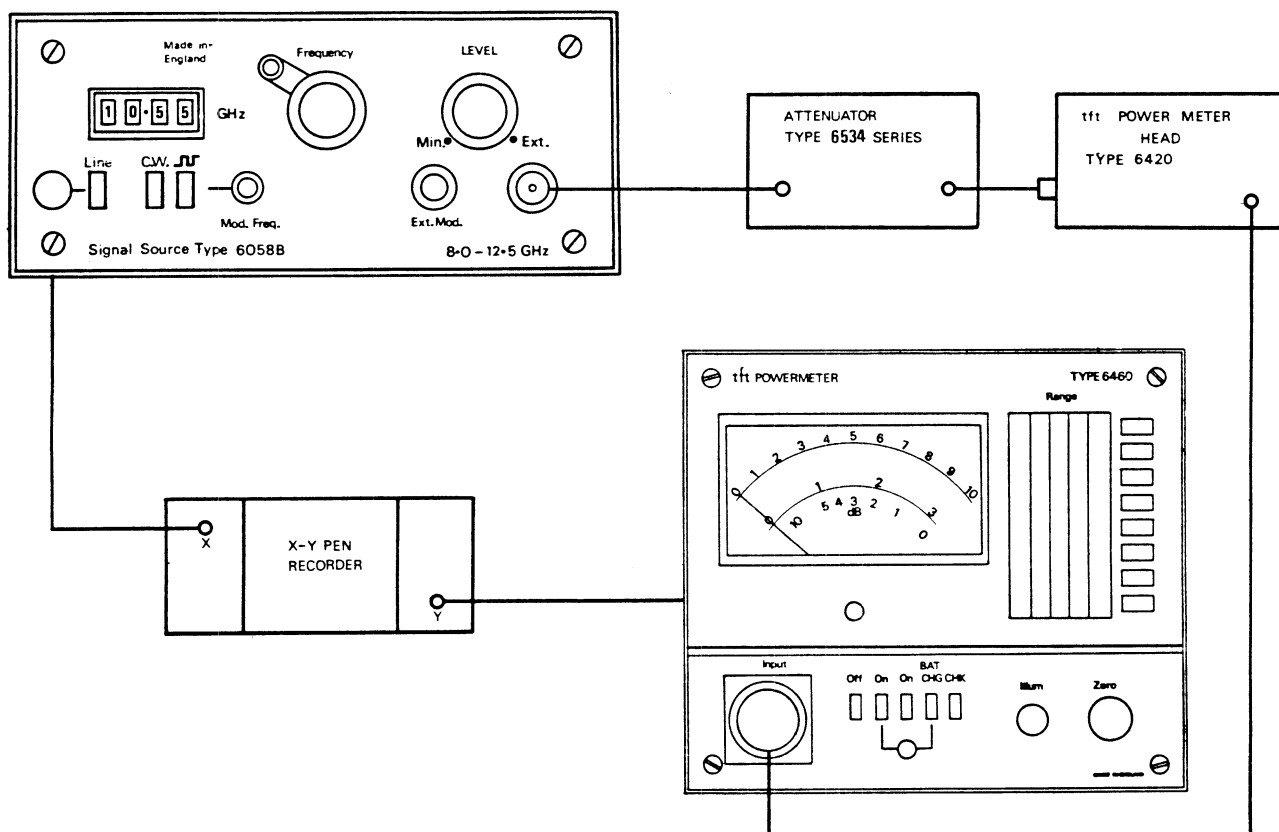

Fig. 11 Attenuation Calibration Circuit
With the system connected as shown in Fig.11:
- 1) With the system connected up as shown in Fig.11, check that the actual output frequency is within  $\pm 1\%$  of the wavemeter reading at the following frequencies:
- 1) Using the system shown in Fig.11 with the pen recorder output of the Signal Source connected to the X-input of the pen recorder adjust the Y sensitivity to correspond to f.s.d. on the microwave powermeter.